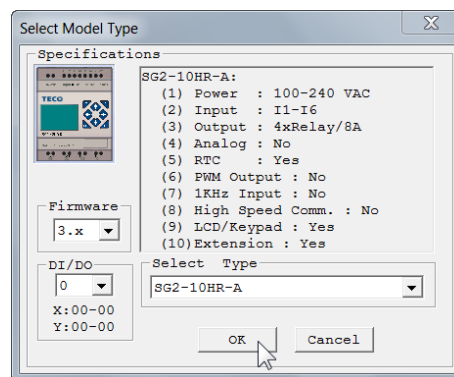
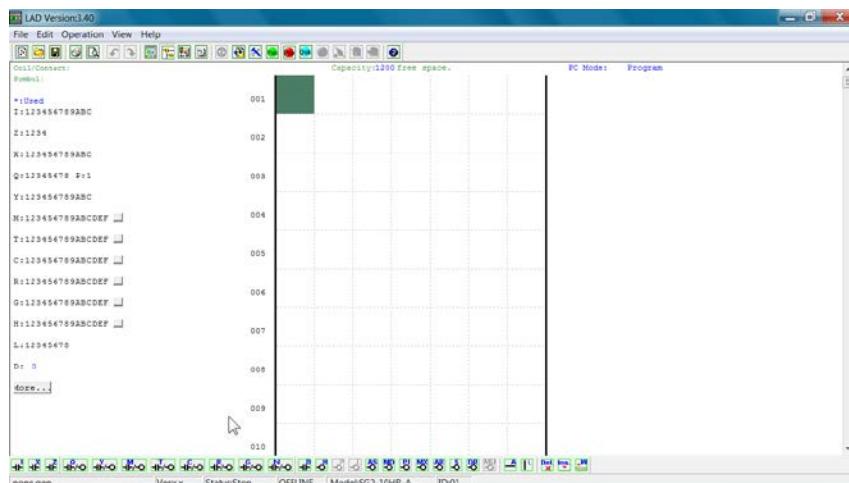

Figure 10
Figure 11
- 5) Select **OK** (Figure 10). SG2 Ladder Logic programming screen will open (Figure 11).